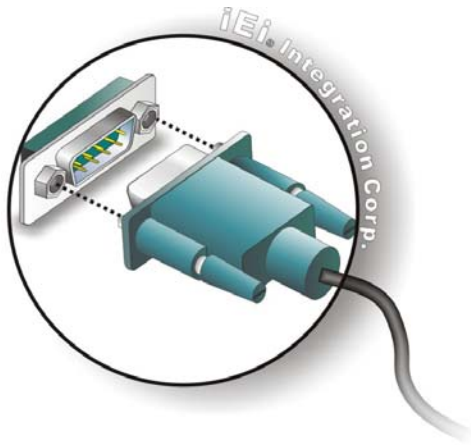

Figure 3-43: RS-232 Serial Device Connector
Step 2: Insert the serial connector. Insert the DB-9 connector of a serial device into the DB-9 connector on the external peripheral interface. See **Figure 3-43**